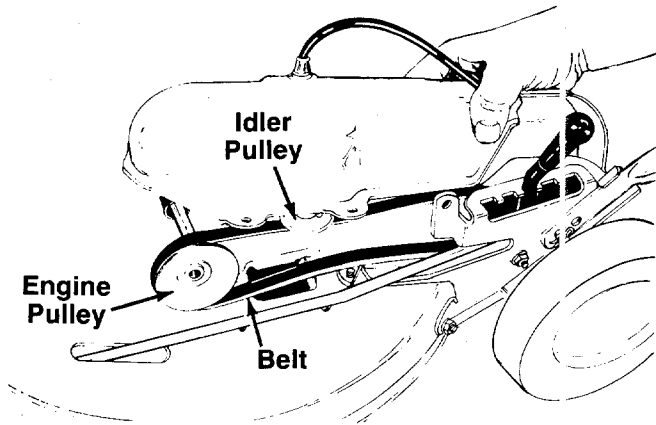

FIGURE 29.
4. Remove the belt from the pulley and engine pulley. See figure 29.